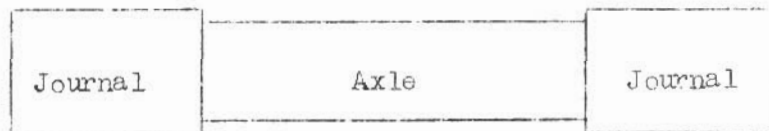

Figure 22
6. THE AXLE (Figure 22) extends through the locomotive frames and there are at least two on a locomotive. The wheels of a locomotive are attached to the axles.